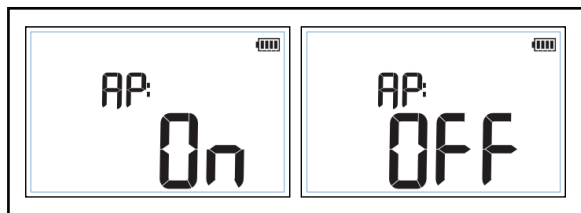

Figure 5. Auto-Off Power Setting
2. Push **ENTER** until **AP** : shows on the display. See Figure 5.